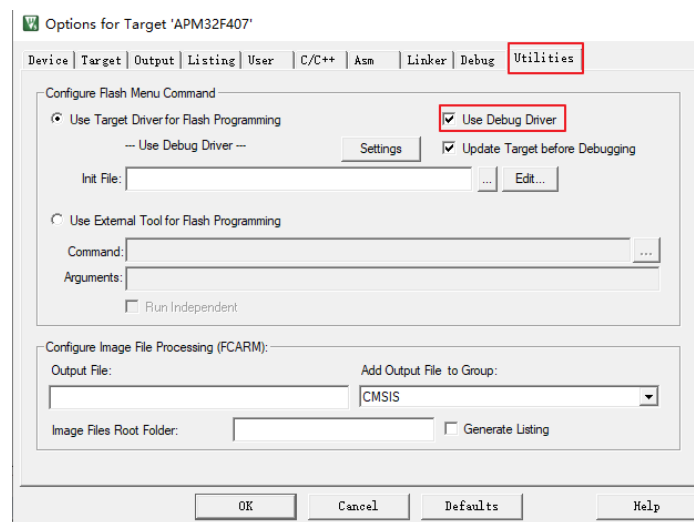

Figure 10
e) As shown in Figure 10, check the default configured simulator in the Utilities option configuration